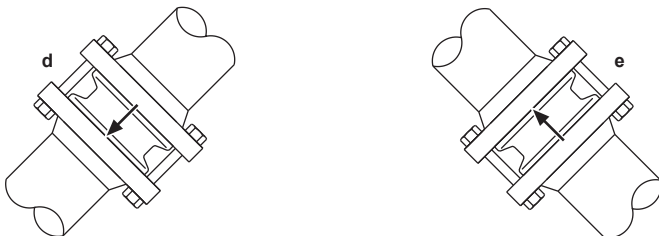

Fig. 2
- 3.5** Disc check valves simply fit between two pipe flanges (see Figure 2). Standard gaskets are used either side of the valve together with longer bolts or studs. Note: flanges, bolts (or studs), nuts and joint gaskets to be provided by the installer. Normal sensible flange bolting practice should be followed eg. torque tightening the bolts in opposite sequence.